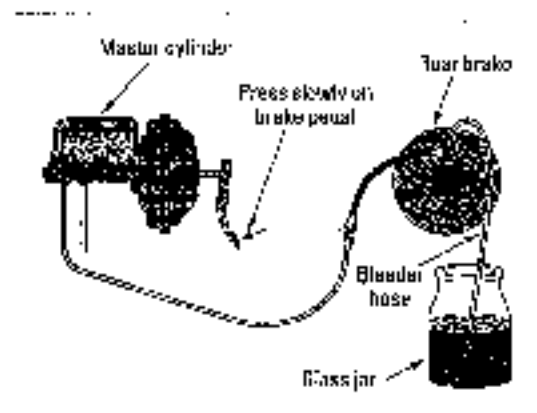

Figure 18-15:
4. Have your friend pump your brake pedal a few times (see Figure 18-15).